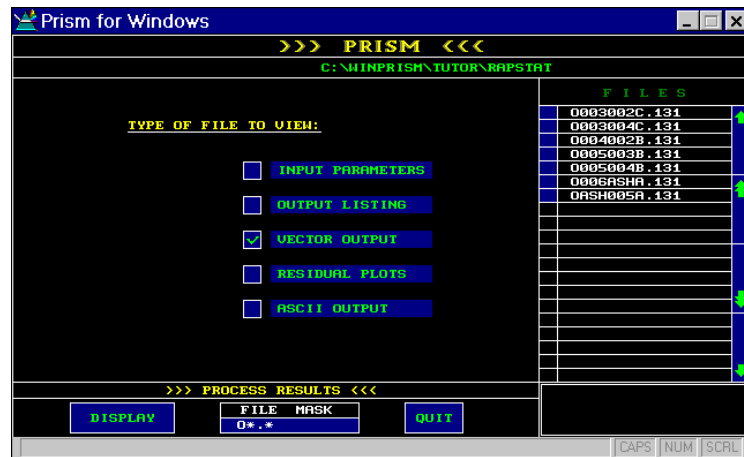

Figure 8.18: Type of File to View
Lists all the files whose names match the FILE MASK for the type of file you select to view (Figure 8.18).
1. Select one TYPE OF FILE TO VIEW (for example INPUT PARAMETERS); once selected the matching files will appear in the FILES panel, typically as shown in Figure 8.18.